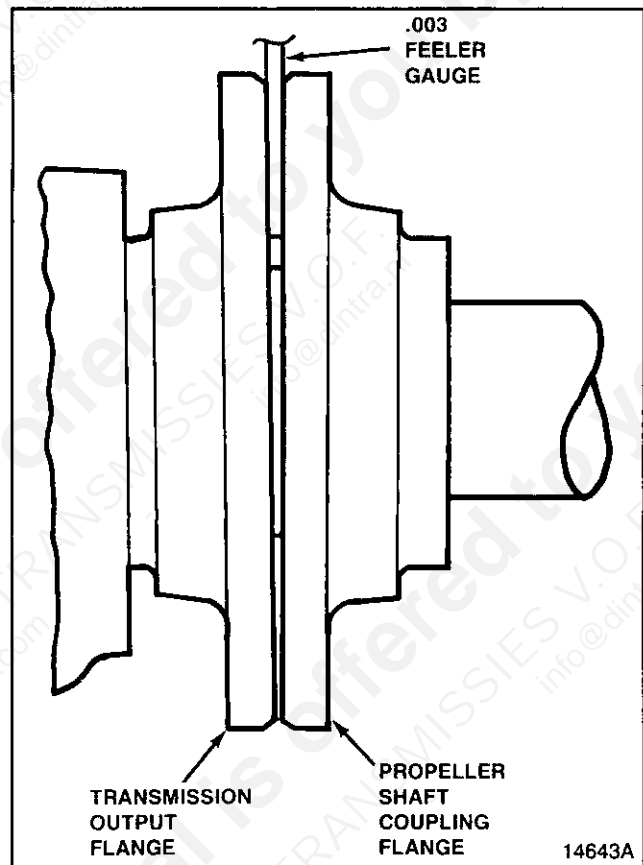

Figure 9. Coupling Alignment
- Connect propeller shaft to gearbox. Check alignment of coupling halves (See Figure 9).